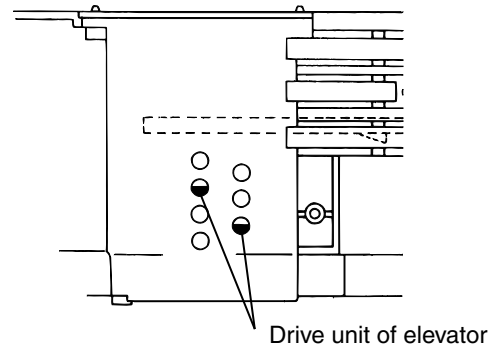
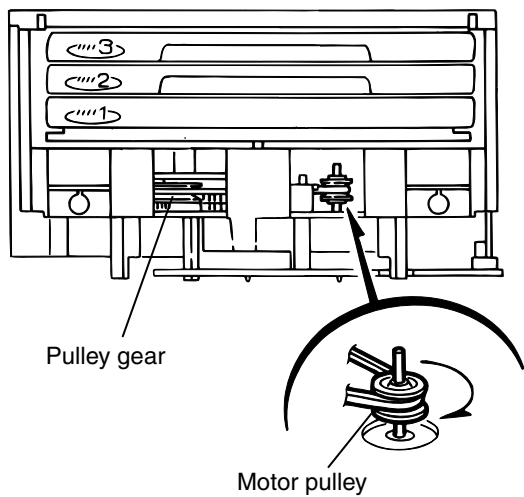

Fig.7
Fig.8
**[Caution]** In case the driver unit elevator is not at above position, set the elevator to the position as shown in Fig.7 by manually turning the pulley gear as shown in Fig.8.
13. Manually turn the motor pulley in the clockwise direction until the lifter unit stopper is lowered from the section "E" of DVD tray assembly(See Fig.8).